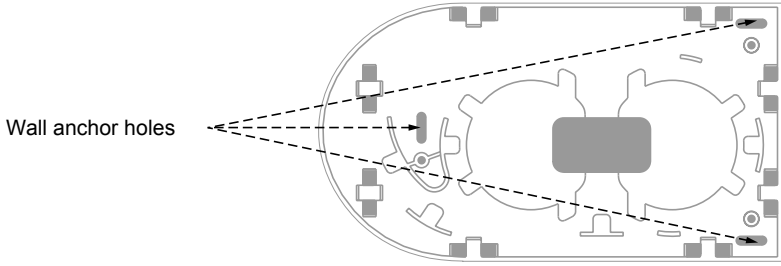

Figure 8. Location of Wall Anchor Holes
3. Select a wall location and mark three hole locations for the anchors, as shown in Figure 8.